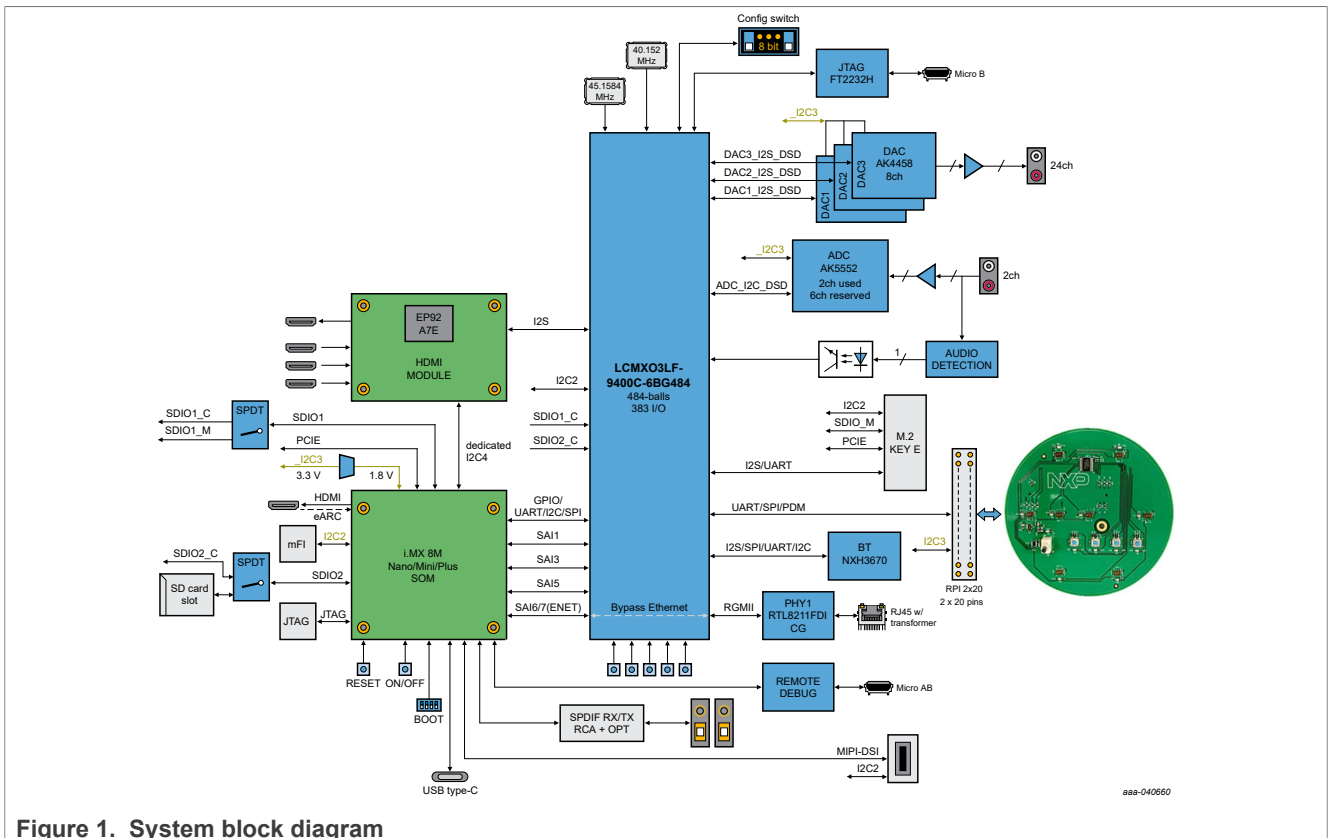

Figure 1. System block diagram
- For more information on the system, see Figure 1.